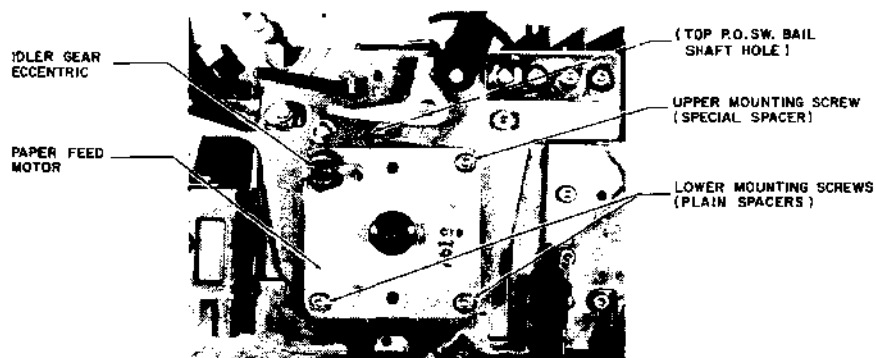

Figure 3-12. Paper Feed Motor Removal/Replacement
- (1) Remove the printer from the bottom cover following the procedure in 3.3.5 and place the printer on a sturdy work bench or table.
- (2) Stand the printer up on the front end of its main frame. Open the wire bundle from the paper feed motor to the mother board and disconnect the four paper feed motor wires from the mother board at T4, T5, T6, and T7.
- (3) Return the printer to its upright position. Remove the E-ring, paper feed idler gear, and the felt washer from the paper feed motor on the right side frame. Cut the tie wrap from the wire bundle mounted to the paper feed motor.
- (4) Using a TORX T15 screwdriver, remove the three paper feed motor mounting screws and the three spacers installed between the motor flange and printer frame. Note that the upper right-hand spacer has a shoulder which fits into the motor flange hole to prevent side play.
- (5) Tilt the motor down and out of the printer frame, and gently pull its connecting wires free from the wire bundle inside the printer.
- (6) Using an 11/32" open end wrench and a blade screwdriver, remove the paper feed idler gear mounting stud eccentric, nut, and two washers from the paper feed motor's upper left-hand flange hole (see Figure 3-12).